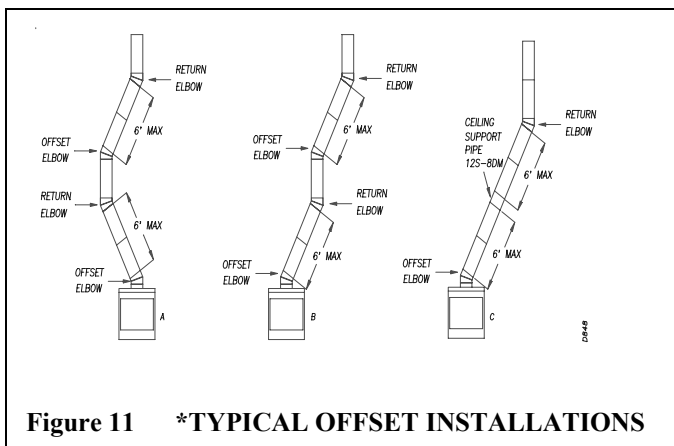

Figure 11 *TYPICAL OFFSET INSTALLATIONS
3. Maximum length of pipe between supports (return elbow or 12S-8DM) is 6' of angled run. Maximum of two (2) 6' angled run sections per chimney system (see figure 11).